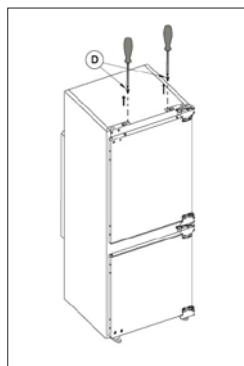

Fig. 6
4. Unscrew the screws (D) from the top part of the refrigerator according to Fig. 6.